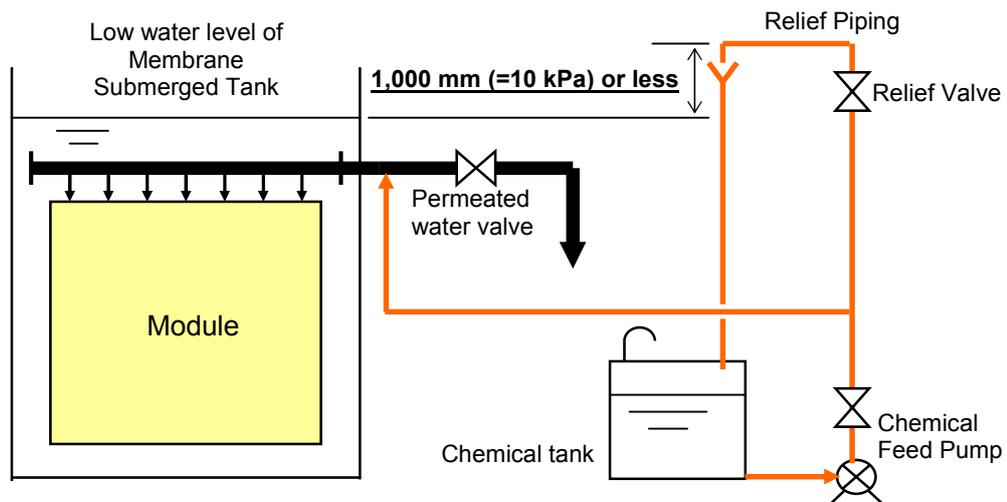

Fig.VIII-4 Chemical Cleaning with the Chemical Feed Pump and Relief Valve
- c. Chemical cleaning with the chemical feed pump and relief valve (Fig.VIII-4)